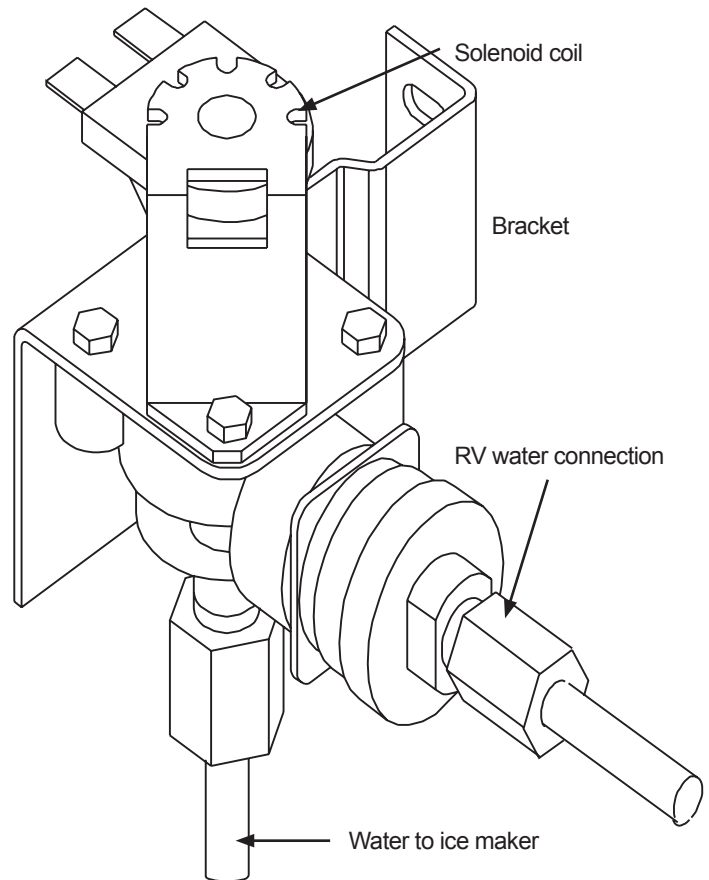
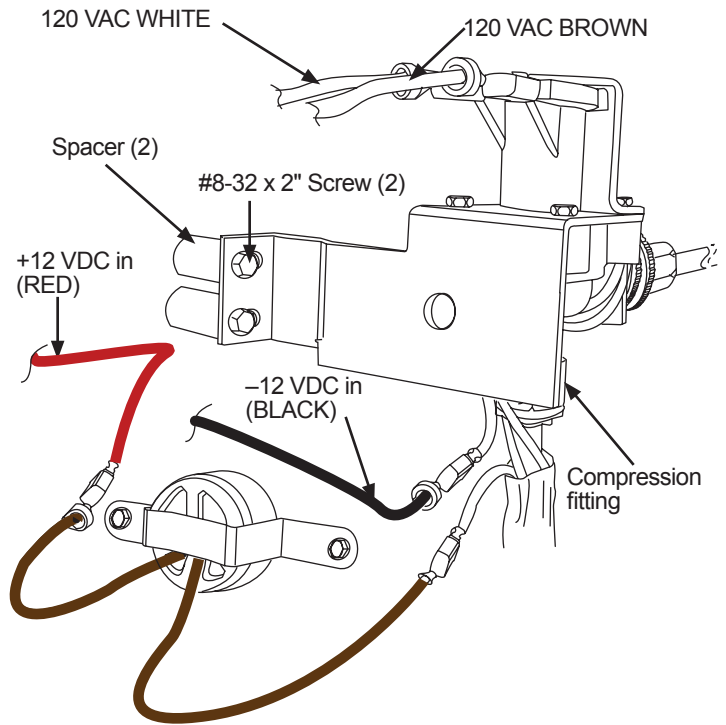

Figure 9-6. —Water valve and water connections.
Figure 9-7. —Water valve bracket and electrical connections.
The water valve, shown in Figure 9-6, is not a repairable component.
Remove the water valve proceed as follows and refer to Figure 9-6 and Figure 9-7 (page 72).
11. Reverse steps 10 through 1 and see Figure 9-6 and Figure 9-7 (page 72), to install the replacement water valve.